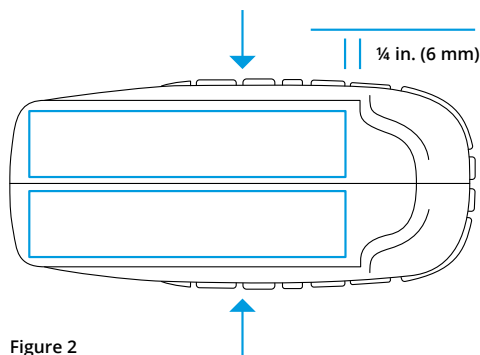

Figure 2
1. Apply a thin film of cyanoacrylate super glue to the bonding surface of the rubber sole. Adhesive should be $\frac{1}{4}$ inch (6 mm) away from the edge of the toe recesses, see Figure 2.
3. Squeeze the two halves of the rubber sole together in the direction shown by the arrows in Figure 2.